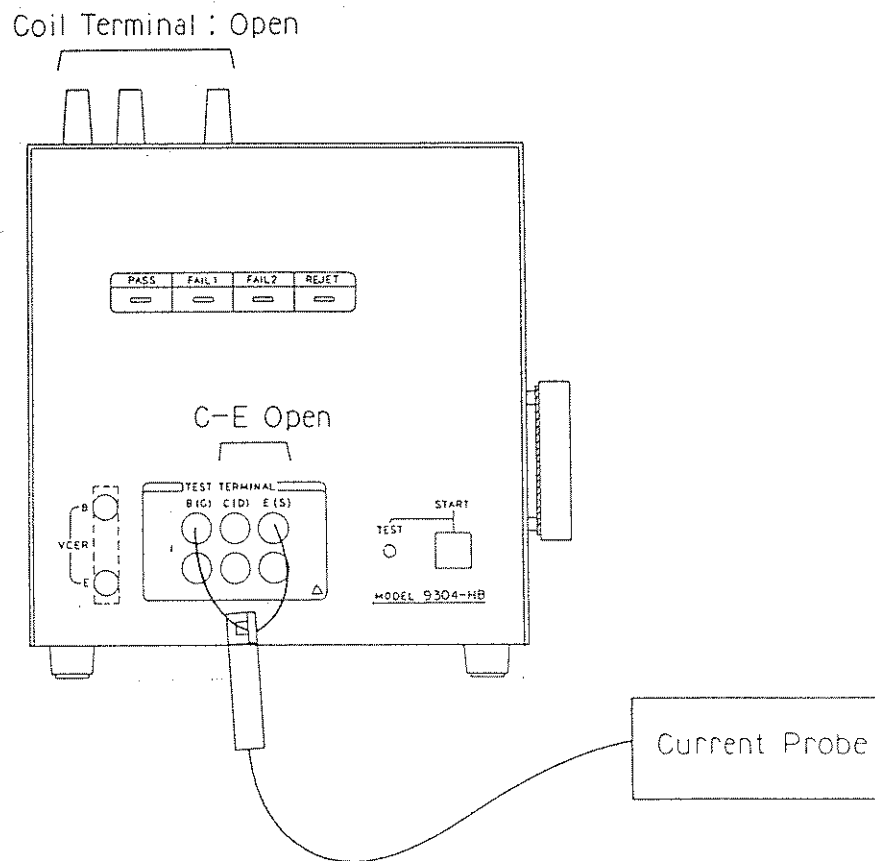

Figure 4.2
- (f) Set a current probe as shown in Figure 4.2 and get a reading of current waveform with an oscilloscope.